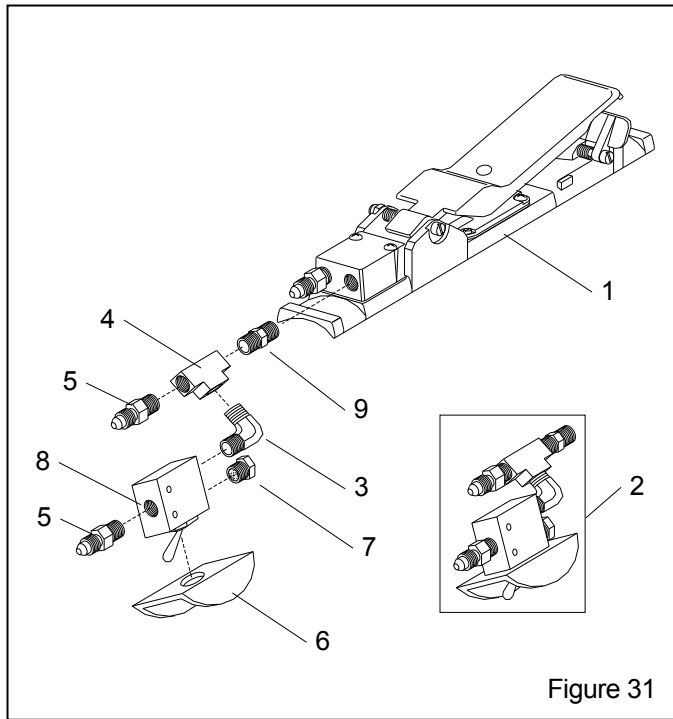

Figure 31
8.10 RLX Pneumatic Control Handle with ACS, Figure 31